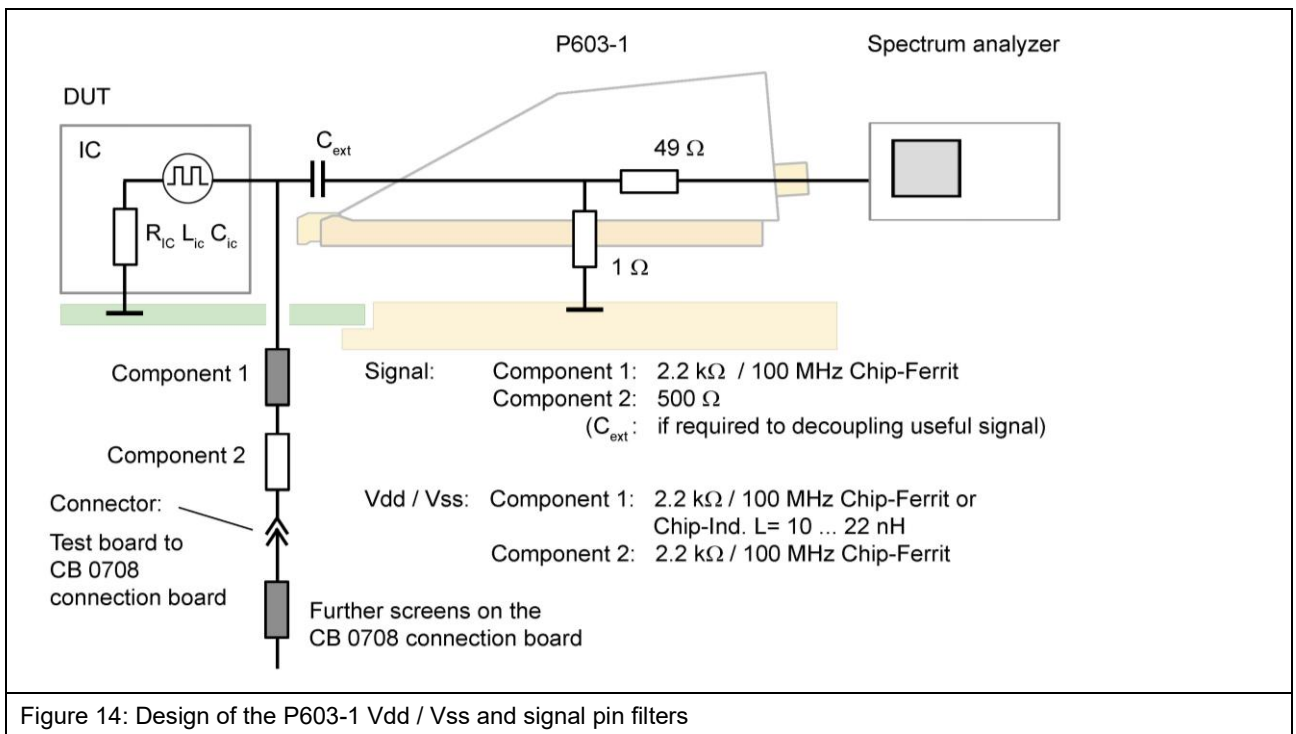

Figure 14: Design of the P603-1 Vdd / Vss and signal pin filters
**Figure 14** shows the design of the Vdd / Vss and signal pin filters which are located on the bottom of the test board. Please refer to the “IC test instructions”3 for a guideline IC EFT immunity on how to set up a test board.